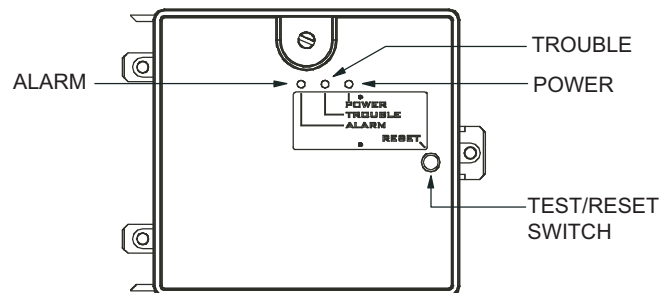

Fig. 3 — Controller Assembly
- Alarm, Trouble, Dirty, and Power status LEDs (see Fig. 3).
- The contacts on the controller's supervisory relay switch positions (see Fig. 3).
1. Locate smoke controller in kit (see Fig. 3).